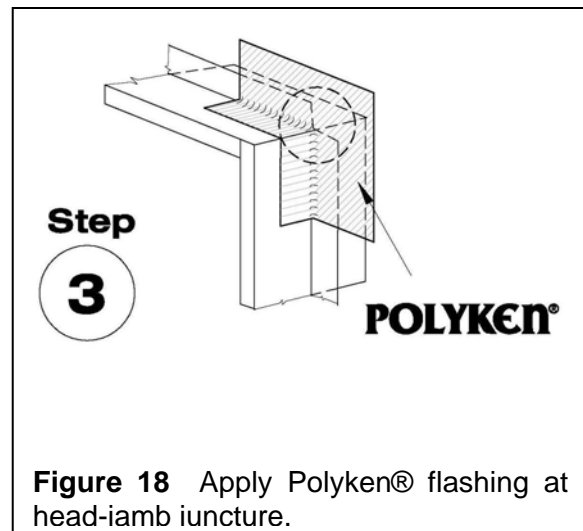

Figure 18 Apply Polyken® flashing at head-iamb iuncture.
Step 3. Apply Polyken® “L” to shape strip to head-jamb juncture. See Figure 18.